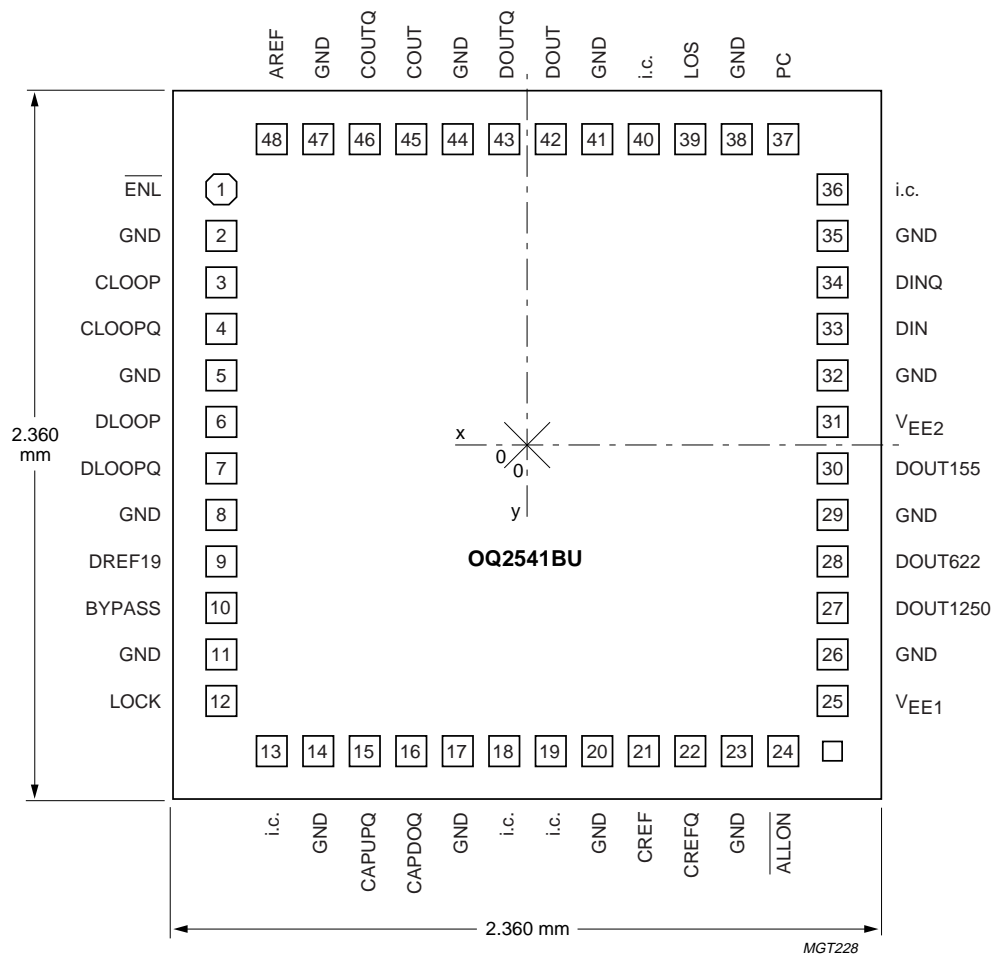

Fig.33 Bonding pad locations of OQ2541BU.
- All x and y coordinates represent the position of the centre of the pad in μm with respect to the centre of the die (see Fig.33).